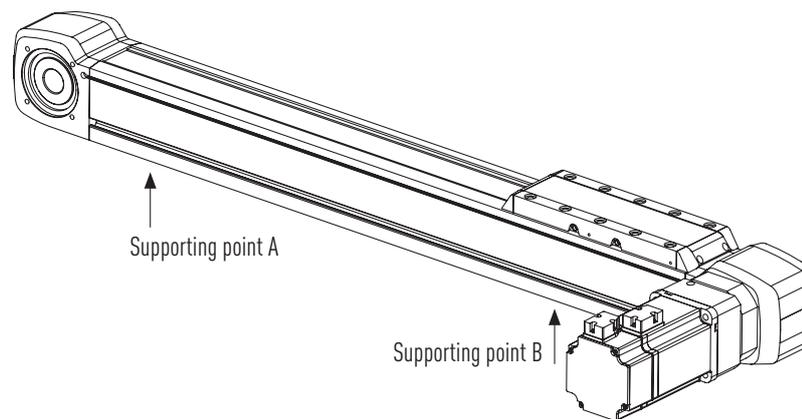
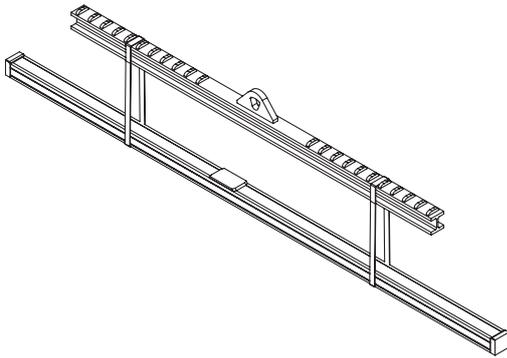
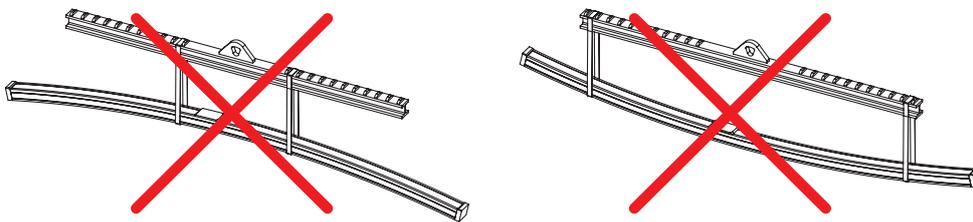

Fig. 5.1 Supporting points A and B for hoisting and transporting, here on an linear axis HM-B
Fig. 5.2 Correct position of the supporting points
Fig. 5.3 Incorrect position of the supporting points
- ▶ To transport the linear axis, hoist it at the points designated A and B (see Fig. 5.1, Fig. 5.2 and Fig. 5.3). The points A and B should be a quarter of the axis' overall length from each of its ends.